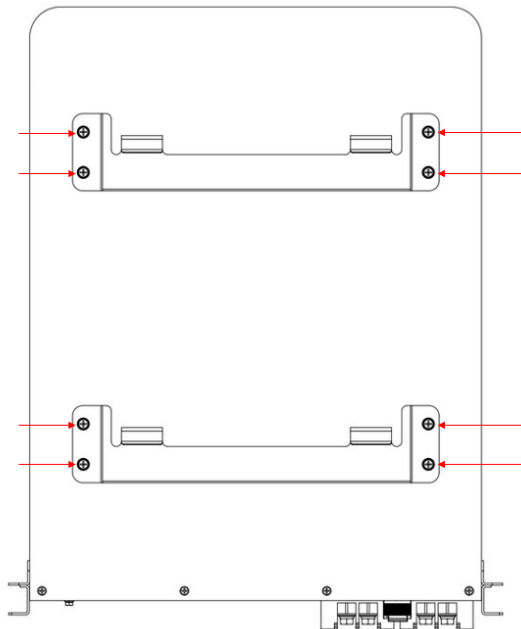

Figure 5-2
a) Use the 8 screws of M6*10 to fix the backplane to the back of the battery as shown in Figure 5-2. Notice that the hook is kept downward.